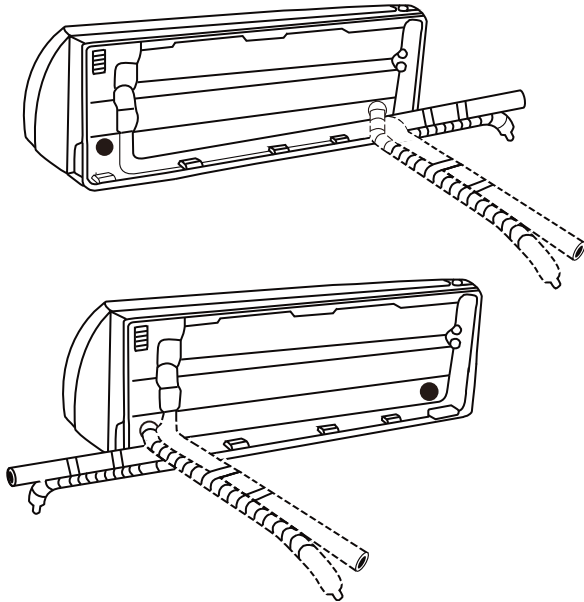

Fig. 11 – Piping Angle
**NOTE: (Piping Angle)** Refrigerant piping can exit the indoor unit from four different angles (see Fig. 11):